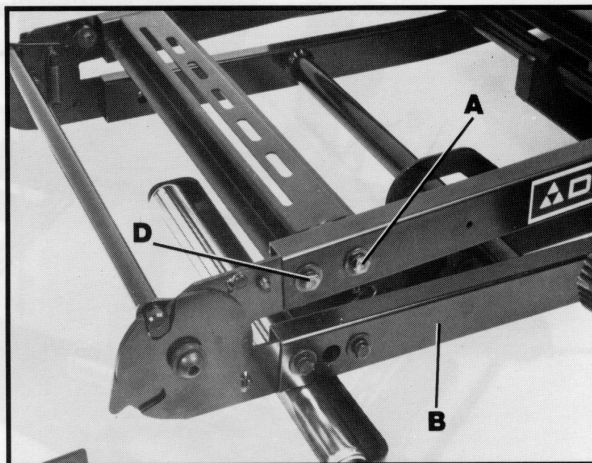

Fig. 2
**IMPORTANT: TO AVOID MISALIGNING THE THREADED MOUNTING HOLES IN THE KICKSTAND WITH THE HOLES IN THE HANDLE ASSEMBLY, DO NOT REMOVE HARDWARE (A) AND (D) FIG. 2, AT THE SAME TIME! PROCEED AS FOLLOWS:**
1. Remove screw, lockwasher and flat washer (A) Fig. 2, from side of kickstand (B). Remove corresponding screw, lockwasher and flat washer from the other side of kickstand (B). **NOTE:** Hardware will be used again.